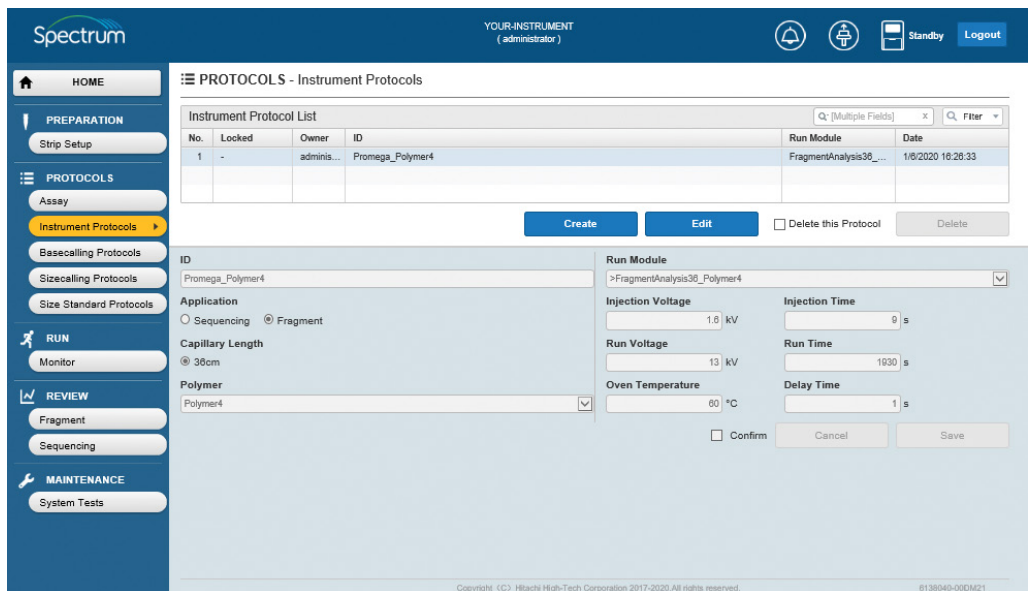

Figure 31. 'Instrument Protocols' screen with active Edit button.
- Select the Instrument Protocol ID in the Instrument Protocol List to edit. This will activate **Edit** (Figure 31).
1. Select **Instrument Protocols** under PROTOCOLS from the Main Menu of the 'HOME' screen (Figure 12) and then select the Instrument Protocol ID in the Instrument Protocol List that you want to delete (Figure 31).
2. Check the "Delete this Protocol" box and select **Delete** (Figure 31).